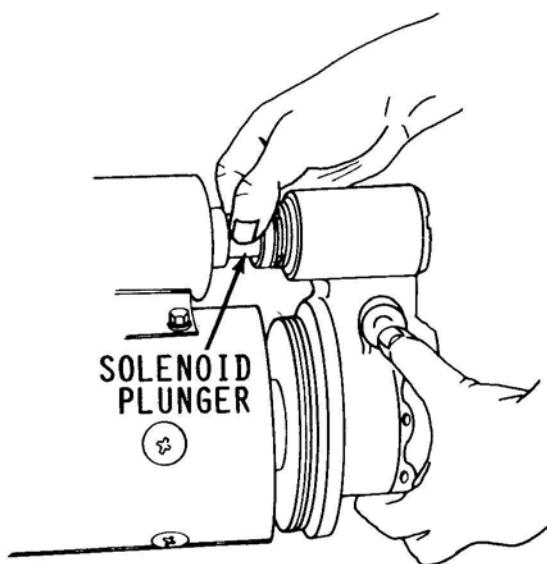

Figure 2-8. Access to Solenoid Plunger
- 9) Separate lever housing with drive end housing with assembled parts (fig. 2-8) to check for suspected binding in shift lever or drive clutch assembly by manually moving solenoid plunger.